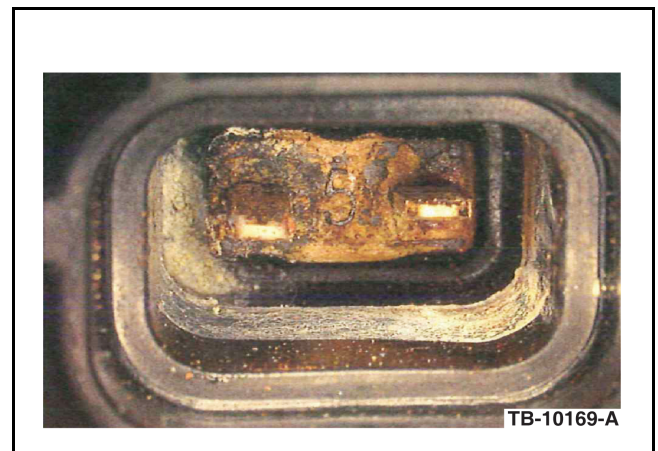

Figure 1 - Article 11-10-5
3. If corrosion from water contamination is severe and terminals are rusted and disintegrated: (Figure 1)